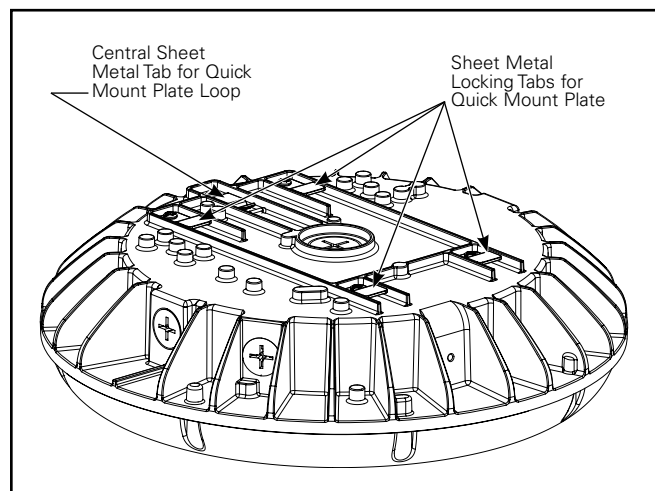

Figure 3.
4. Reattach the housing to the plate by snapping the quick mount plate loop back into the tab on the housing (Figures 3 & 4).